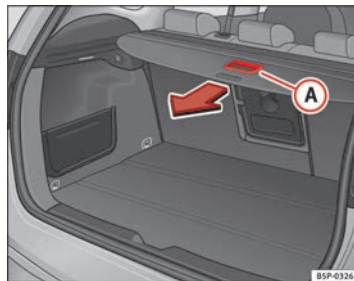

Fig. 125 Using the rear shelf
- Use the handle (A) to pull the shelf back until you hear a “click” ⇒ Fig. 125.